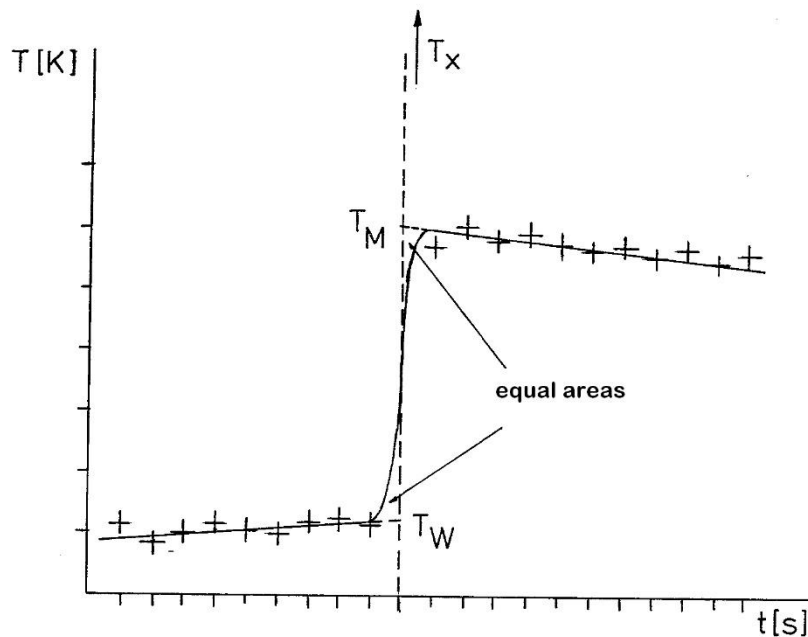

Fig. 1: Evaluation of calorimetric measurements
- 1) Draw your measurement points in a temperature/time diagram (see Fig. 1).